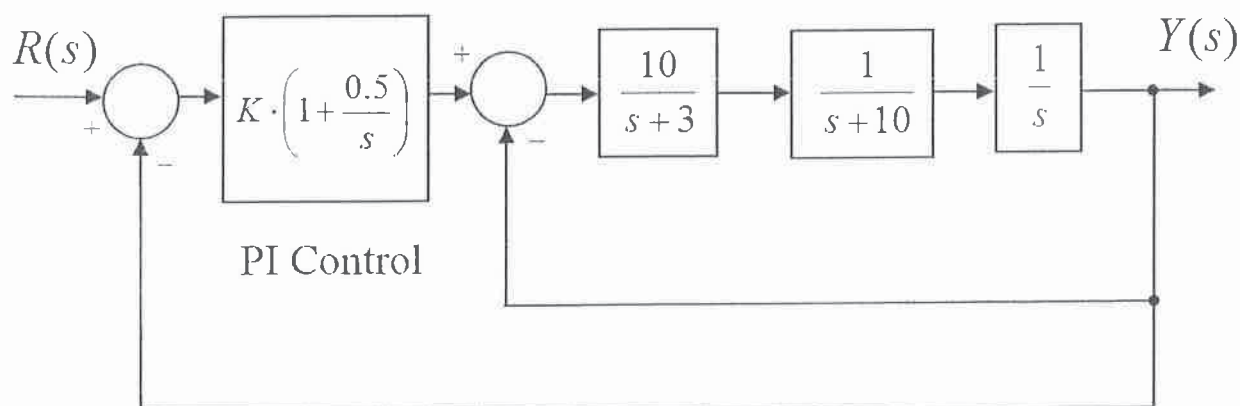

Figure Q1.1
Consider a servo-positioning system under Proportional + Integral (PI) Control that is represented by the block diagram in Figure Q1.1. The PI Controller has an adjustable Gain, K . The system is to exhibit zero Steady State Error in the response to a unit step input and the Steady State Error in the response to a unit ramp is to be: $e_{ss(ramp)} = 0.1 V/V$.